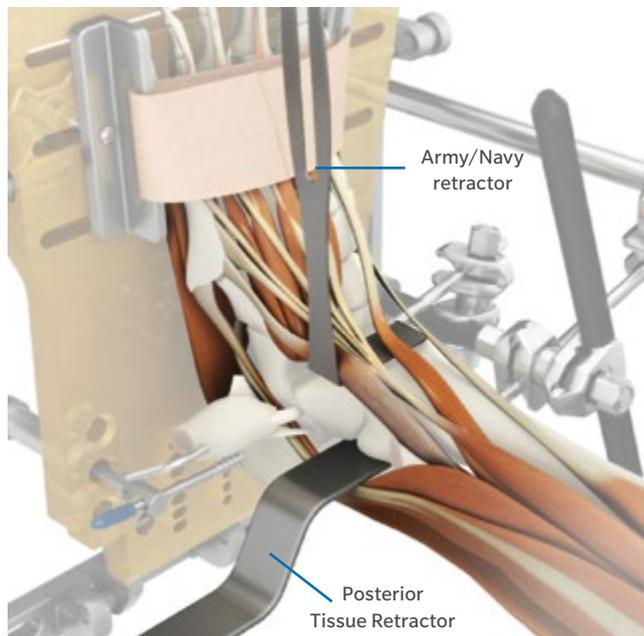

Fig. 52
- Insert an Army/Navy Retractor anteriorly to protect the anterior soft tissue structures (Fig. 52).